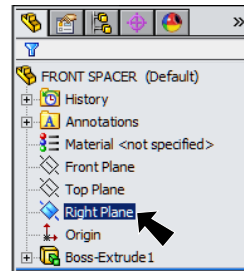

Fig. 5
Step 1. Click **Right Plane**  in the Feature Manager to select Plane, **Fig. 5**.